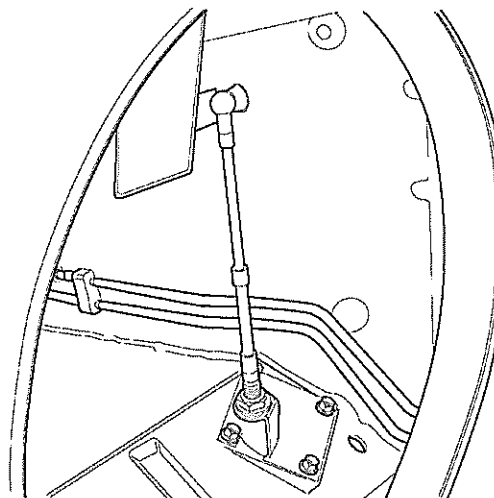

Fig 2 Selector cable retainer
- 7.8 Loosen large hexagon nut (see Fig 2).